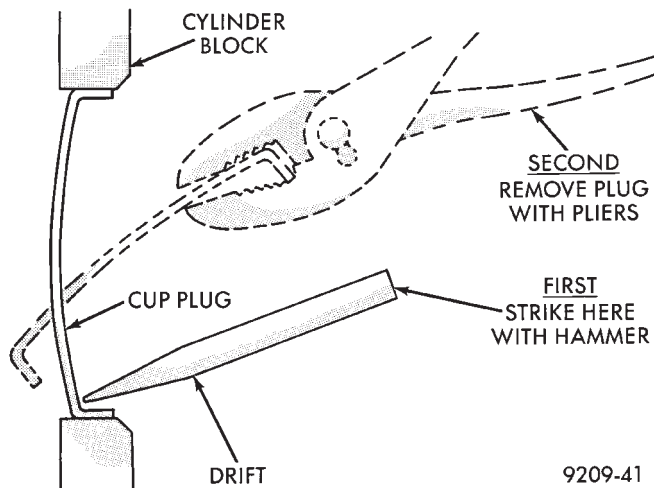

Fig. 47 Core Hole Plug Removal
(1) Using a blunt tool such as a drift or a screwdriver and a hammer, strike the bottom edge of the cup plug (Fig. 47).
(2) With the cup plug rotated, grasp firmly with pliers or other suitable tool and remove plug (Fig. 47).